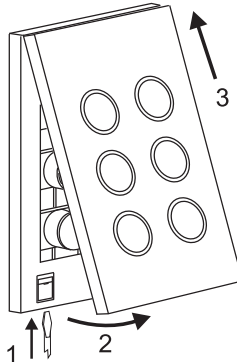

Figure 3. The release slots provide easy removal of the cover plate
- 2) Swing the lower end of the fascia about 5 mm away from the grid, until it is free (refer to Figure 3).